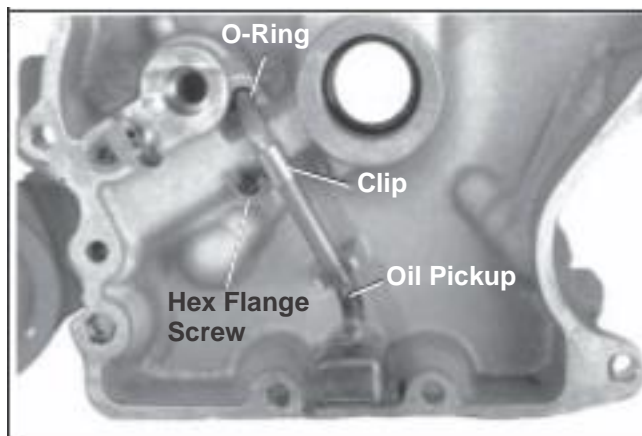

Figure 11-18. Installing Oil Pickup Components.
1. Install the oil pickup, O-Ring, clip, and hex flange screw. See Figure 11-18.